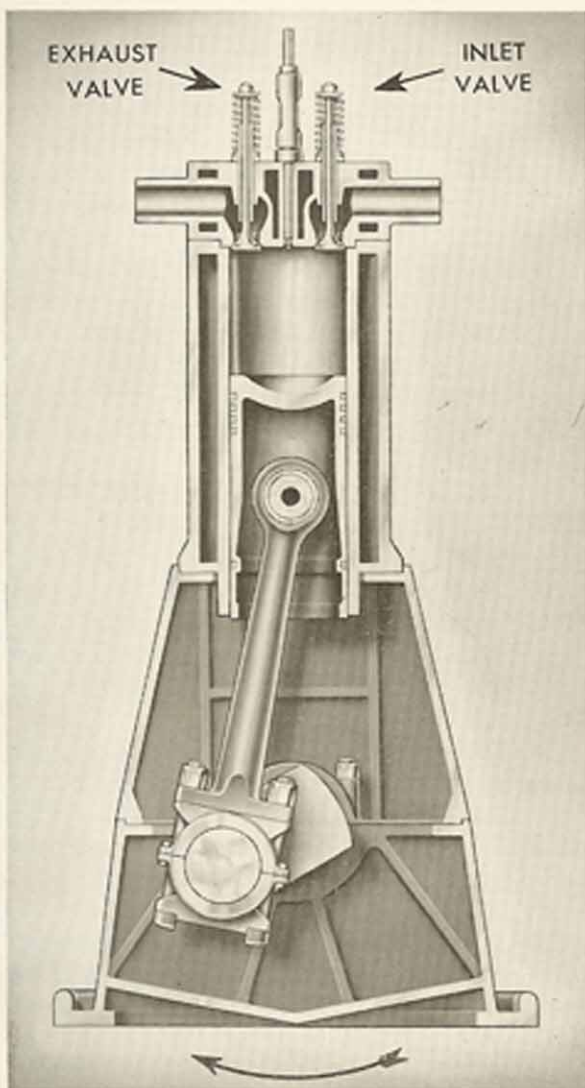

Figure 1-5
10. THE COMPRESSION STROKE: At the end of the inlet stroke the piston is at bottom center and the cylinder is full of fresh air. The inlet valve closes, and the exhaust valve, closed at the end of the exhaust stroke, remains closed. The air is trapped in the cylinder with no chance to escape. The piston starts on an upstroke and crowds, or compresses, the air into smaller and smaller volume. Finally as the piston approaches top center the air that originally filled the cylinder is compressed into the small clearance volume. This stroke is called the compression stroke and is illustrated in Figure 1-5.